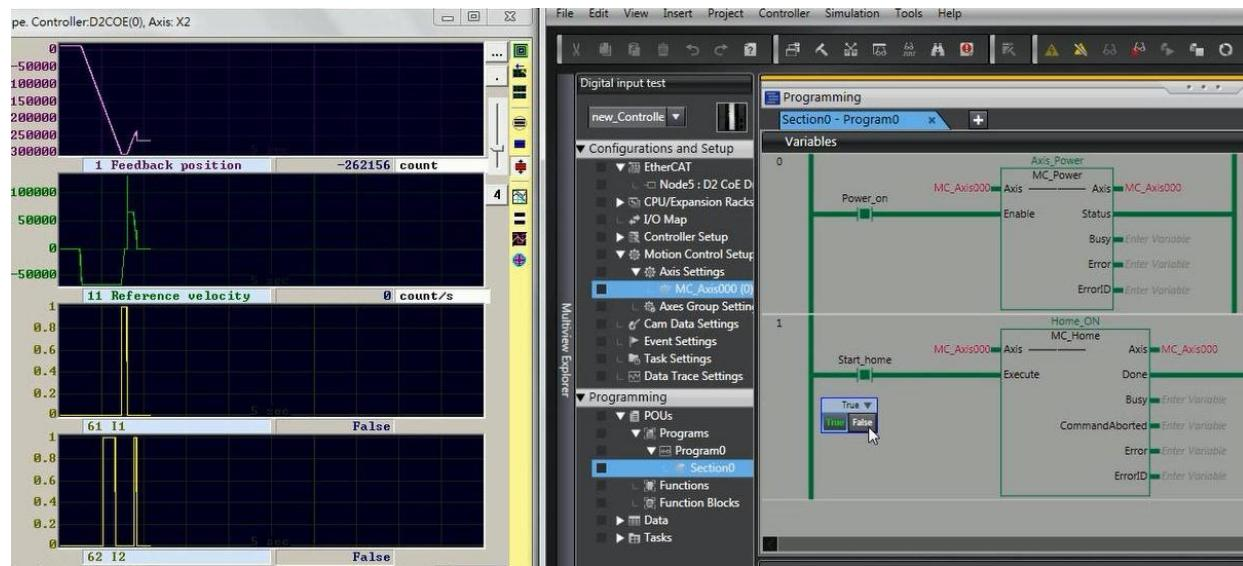

Fig. 5-50
- (8) Execute homing program.
- The homing result is given in Fig. 5-50.